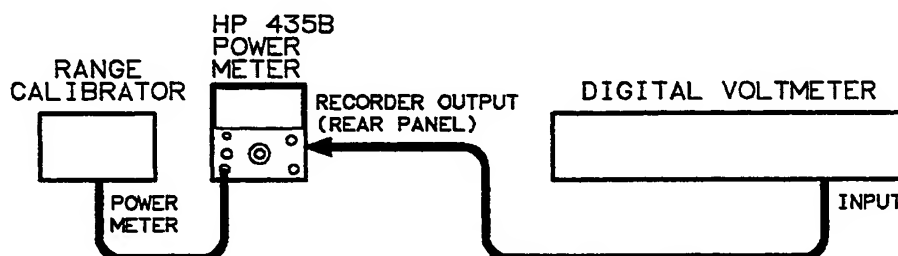

Figure 4-3. Instrumentation Accuracy Test Setup with Calibrator
4. Connect the equipment as shown in Figure 4-3.